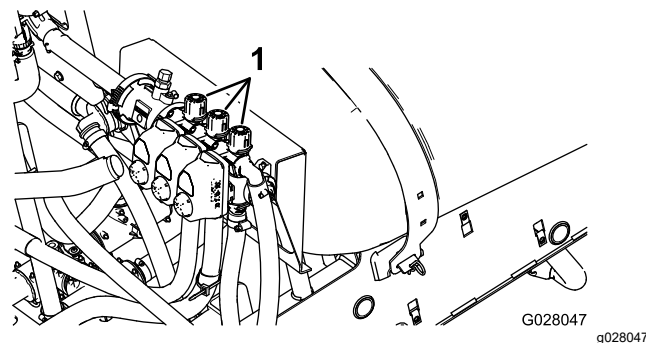

Figure 70
4. Adjust the right section-bypass valve (Figure 70) until the pressure reading is at the previously adjusted level (typically 2.75 bar or 40 psi).
6. Adjust the center section-bypass valve (Figure 70) until the pressure reading is at the previously adjusted level (typically 2.75 bar or 40 psi).
2. Turn off the left-section switch and adjust the left section-bypass valve (Figure 70) until the pressure reading is at the previously adjusted level (typically 2.75 bar or 40 psi).